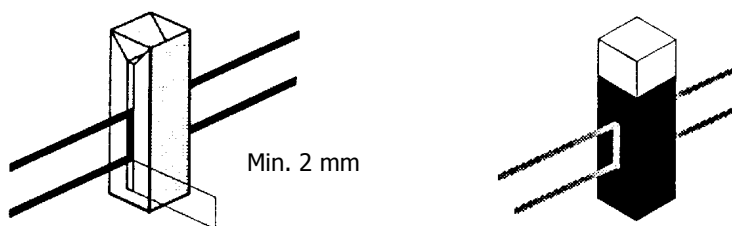

Figure 28 Correct alignment of the radiation beam in the cell sample area
9. Visually check the vertical alignment of the radiation beam in the cell sample area. Alignment is correct when the radiation beam is just above the floor of the cell sample area (minimum 2 mm) or covers the cell window, as shown in Figure 28.